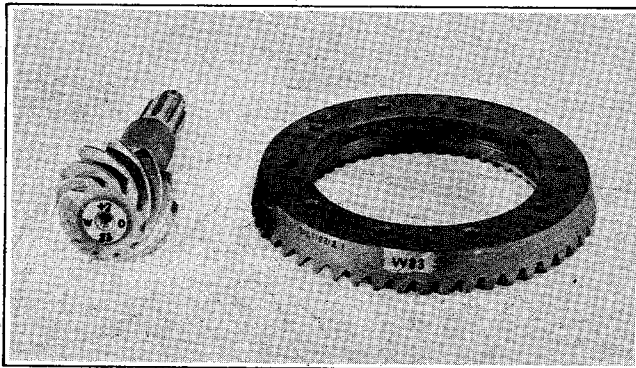

Figure 2-14. Drive Pinion and Drive Gear
11. Note figures etched on drive pinion (22) end. See Figure 2-14. Four sets of figures are etched on drive pinion. One figure is found on both the drive pinion and the drive gear and identifies a matched set. Directly opposite this figure will be one with a (+) or (-) before it, or, if not a (+) or (-), the figure will be 0. This number must be positively identified before continuing with the assembly procedure. Midway between the two sets of figures described above are numbers and letters etched for manufacturing purposes only, but as one of these numbers may be (0) and might be confused with the number needed for assembly procedure, a rule to follow would be to first examine the shaft end for a (+) or (-) number, and only if a (+) or (-) number is not etched on the shaft, will the number be (0).